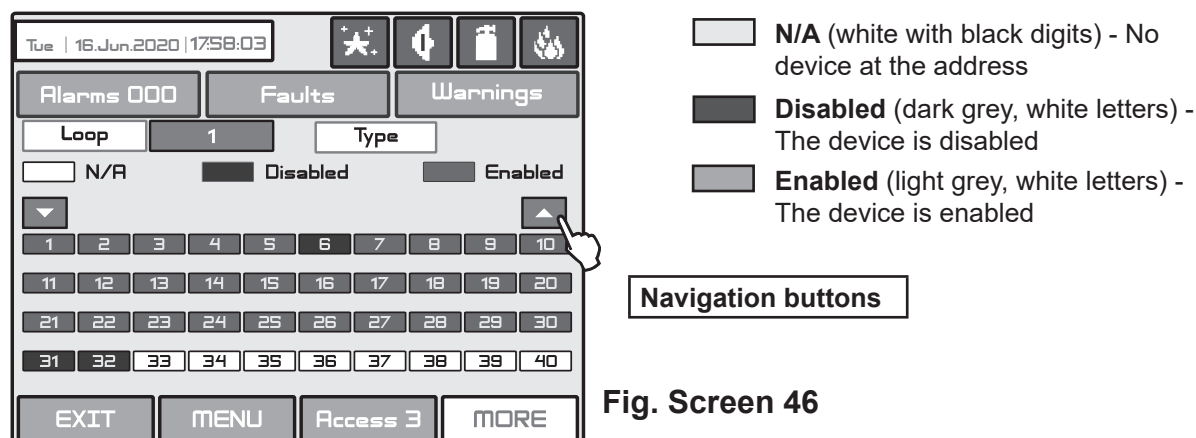

Fig. Screen 46
The user/installer could first look at the current status of the loop devices by choosing “View” button situated next to the “Loop devices” button - see Fig. Screen 45. The current status of the loop devices programmed earlier in the system are displayed on the screen (see part Programming, item 3.3.2 Loop Devices) - Fig. Screen 46.